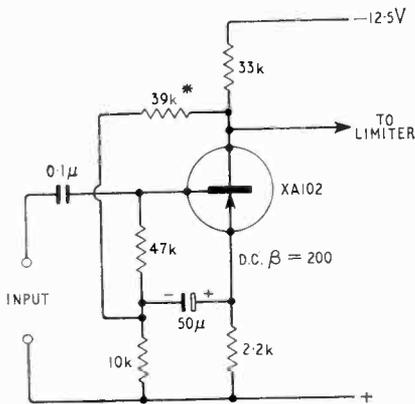

Fig. 3. Pre-amplifier circuit.
**Pre-amplifiers:**—Two of these are required, details of the circuit being shown in Fig. 3. The bootstrap connection gives an input impedance in excess of  $\frac{1}{4}$  megohm. The transistor working point is stabilized by d.c. feedback. Except for the component marked with an asterisk, matched resistors should be used in corresponding positions in each amplifier. The starred component, shown as 39k $\Omega$ , should be selected by trial so that when a test signal is applied and gradually increased in amplitude, the onset of overload results in symmetrical clipping of the positive and negative crests of the output waveform. The voltage gain of each amplifier should be almost the same, although differences of up to 3 dB are tolerable.